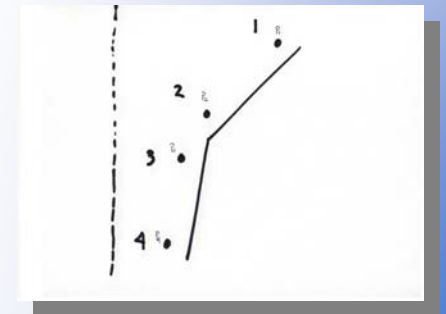

Figure 2
- Your points should look like Figure 2, if looked at from the side.
- Now go to **Construct < Point < Best Fit**, and use the "From Screen" button. Pick the points in the order like figure 2. As each point is accepted to the database, you will have to click the OK button. Do so for each point. When done, do not accept the results for all 4 points together. Hit the ESC key on the keyboard a few times to cancel this command. The result gives Npoint1, Npoint2, Npoint3, Npoint4.